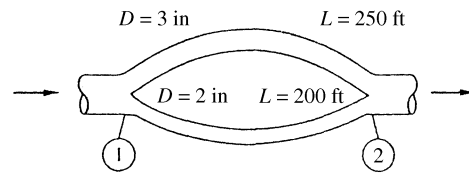

Fig. P6.111
6.111 For the parallel-pipe system of Fig. P6.111, each pipe is cast iron, and the pressure drop $p_1 - p_2 = 3 \text{ lbf/in}^2$. Compute the total flow rate between 1 and 2 if the fluid is SAE 10 oil at 20°C .
6.112 If the two pipes in Fig. P6.111 are instead laid in **series** with the same total pressure drop of 3 psi, what will the flow rate be? The fluid is SAE 10 oil at 20°C.